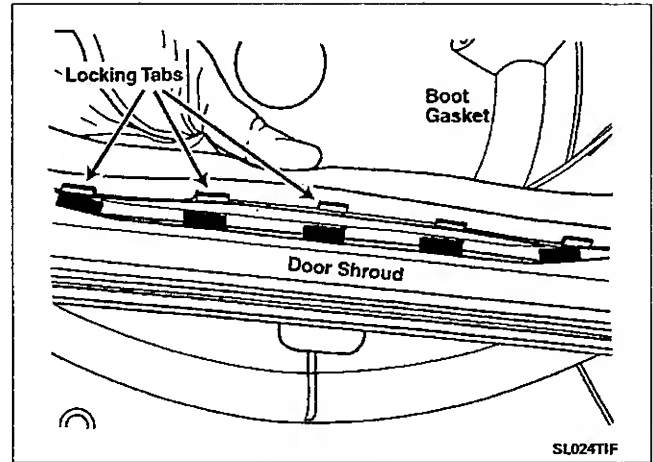

Figure 5-6
6. Unsnap the boot gasket from around the inside perimeter of the door opening by pulling outward on the sealing lip of the gasket (*Figure 5-6*).
6. Unsnap the boot gasket from around the inside perimeter of the door opening by pulling outward on the sealing lip of the gasket (**Figure 5-6**).